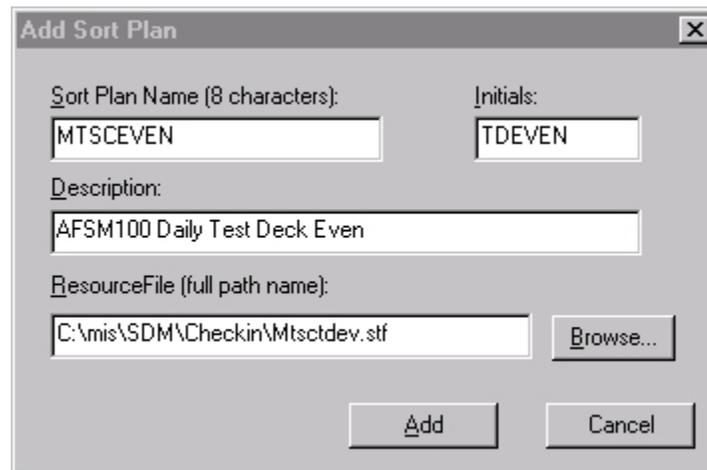

Figure 2-3. Add Sort Plan
4. In the Add Sort Plan window (Figure 2-3), make the following entries depending on which sort plan is being installed:
- Resource File (See Figures 2-3 and 2-4): Click on **Browse....** and navigate to **C:\MIS\SDM\Checkin\MTSCEVEN.stf**